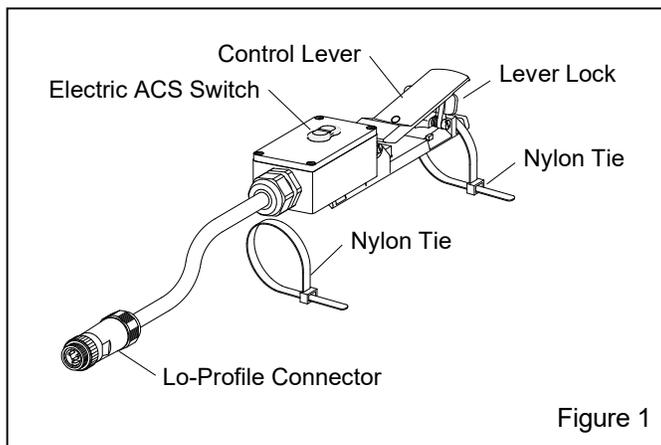

Figure 1
1.4.1 The principal components of the remote control handle are shown in Figure 1. The control handle is the main activator of Clemco electric remote control systems. When the control lever is up, it is in the nonblast position. Pressing the control lever down activates the remote controls.
1.6.1 The ACS cutoff switch is the rocker switch mounted in the control box situated behind the control handle, as shown in Figure 1. Refer to the remote control systems manual for operating instructions for the remote controls.